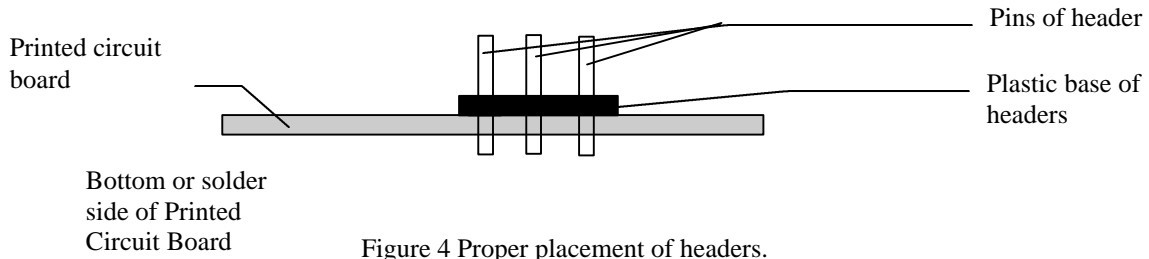

Figure 4 Proper placement of headers.
**13.** Cut the male headers HMS (3 pin), RAMH (2 pin), ROMH (3 pin) RAML (2 pin), ROML (3 pin), SS (2 pin), VRH (3 pin), VRL (3 pin), BATT (4 pin), SPI (7 pin), SCI (6 pin). Before soldering ensure that they are straight, aligned, and placed firmly against the board. If necessary align them with a piece of 100 mil perforated board. The three pin headers should look like Figure 4 when completed.